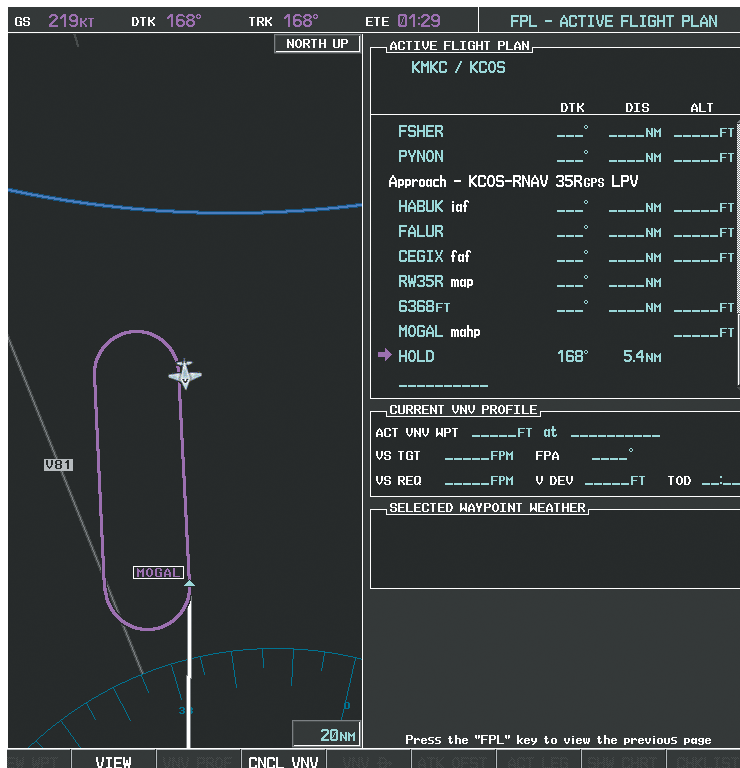

Figure 5-148 Hold Established
27) The aircraft maintains 10,000 feet while following the magenta line through the hold as in Figure 5-148.